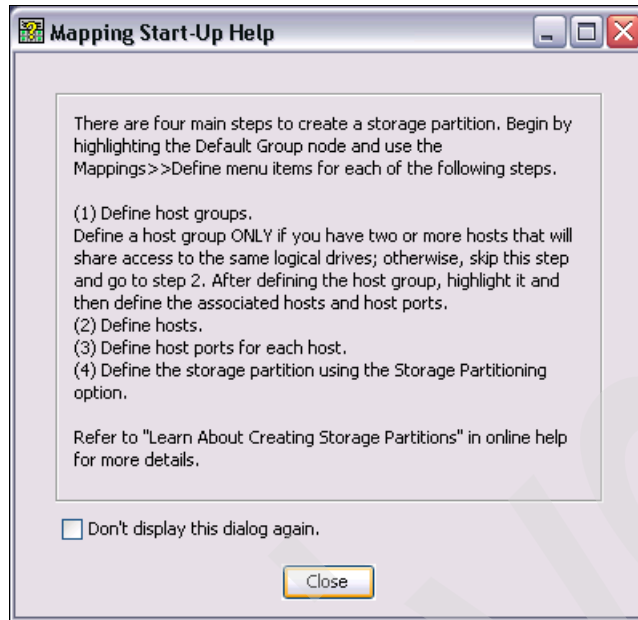

Figure 7-62 DS Storage Manager Mapping Start-Up Help dialog
3. The Mapping Start-Up Help dialog appears, which we close by selecting **Close**, as shown in Figure 7-62.